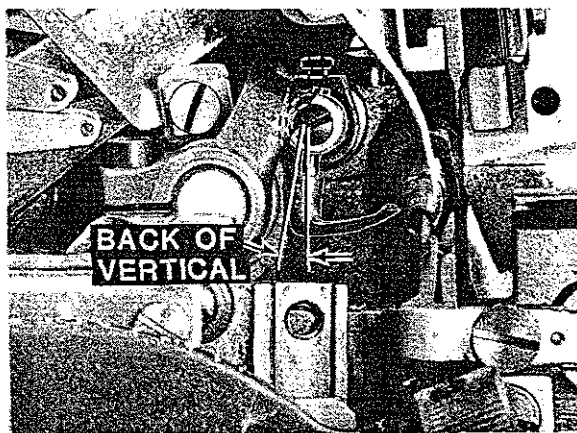

Fig. 12
2. With upper looper positioned at the right end of travel, loosen screw (C) and rotate holder (B) as required to set shank of looper slightly back of vertical, as shown in Fig. 12, then temporarily tighten screw (C, Fig. 11).